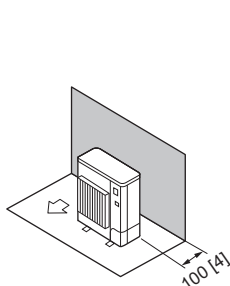

Fig. 2-6
1. Obstacles at rear only (Fig. 2-6)